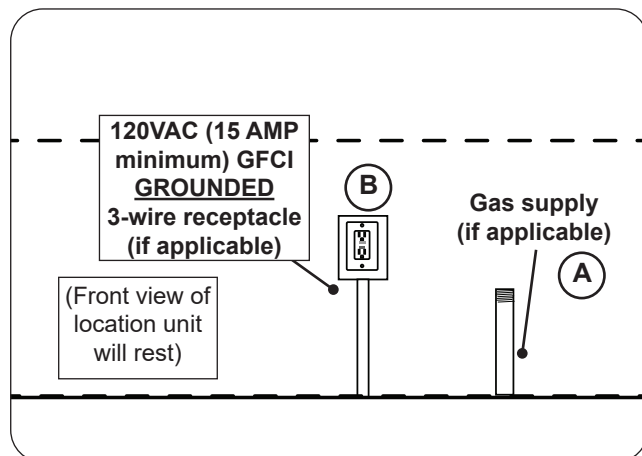

Fig. 21-1 Route gas and electrical (as applicable)
1. Ensure the gas supply is properly routed into the area that the unit will rest over (see Fig. 21-1, A).
1. Wire the receptacle into the area that the unit will rest over (see Fig 21-1, B).